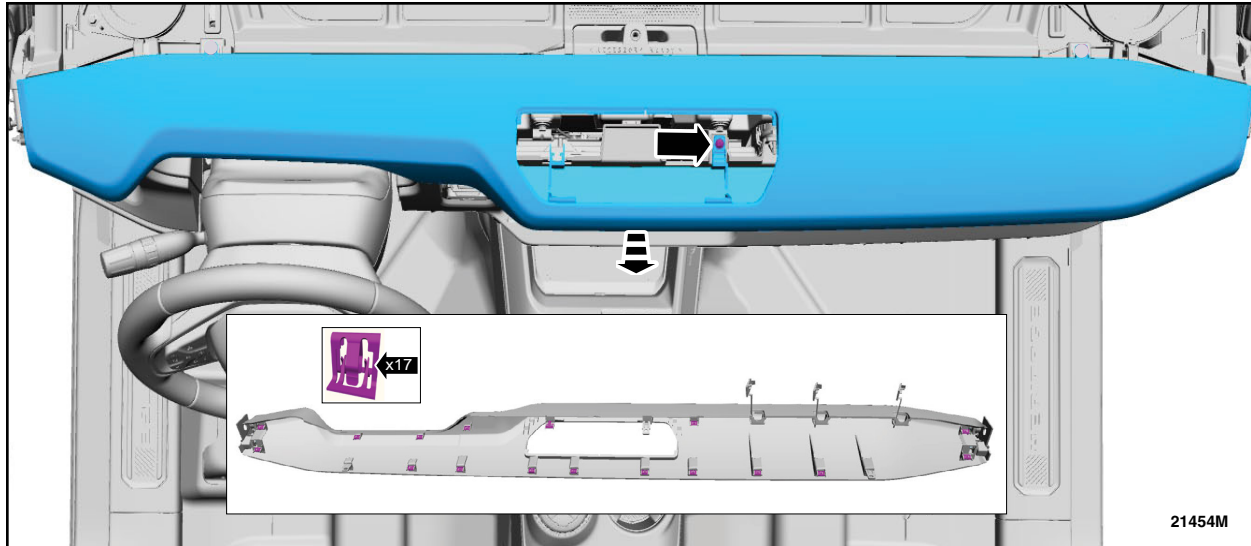

FIGURE 12
12. Remove the bolt, release the clips and remove the upper trim panel. See Figure 12.